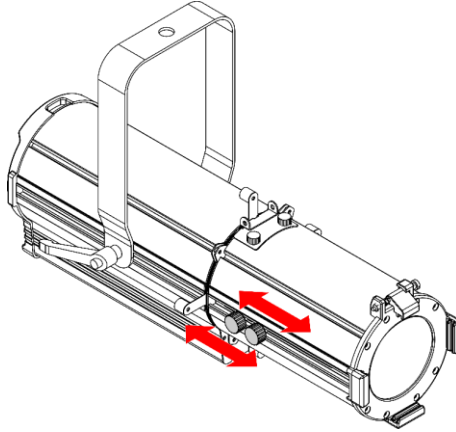

Fig. 13
- 01) Turn the **focus control (13)** and the **zoom control (12)** counterclockwise to loosen them.
- 02) Slide the controls forwards or backwards to adjust the zoom and the focus (see Fig. 13).
- 03) Once the fixture is focused, turn the **focus control (13)** and the **zoom control (12)** clockwise to tighten them. Do not overtighten them.